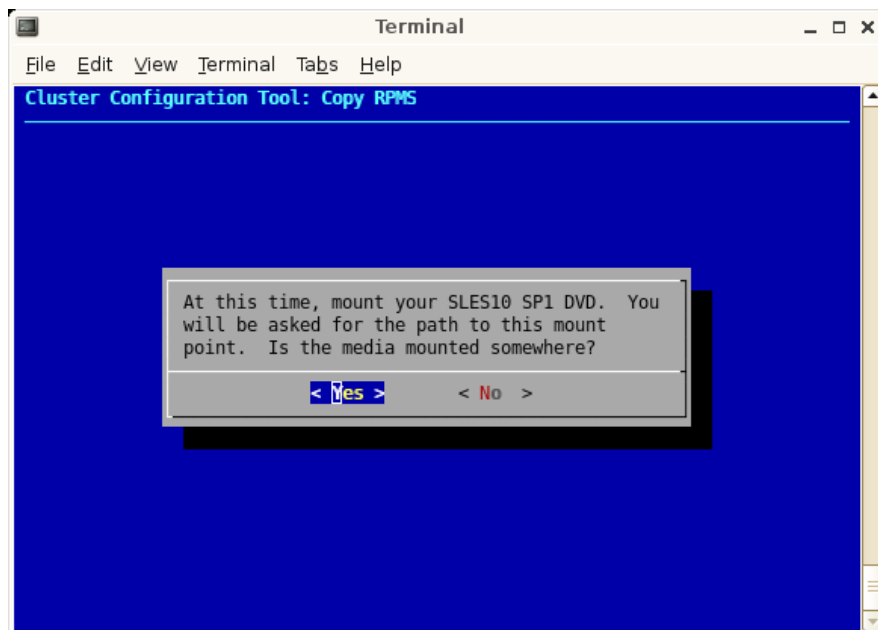

Figure 2-12 Copy RPMs Sreen One
24. The first of three **Copy RPMs** screens appears, as shown in Figure 2-12 on page 40. Click **Yes** to continue.